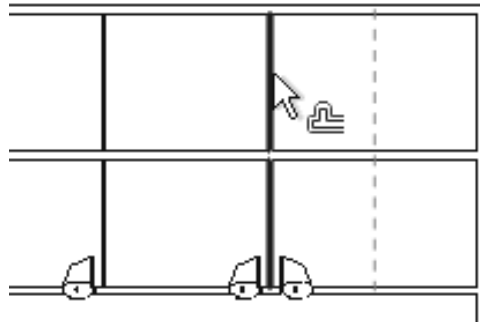

Figure 2-74
- With **Offset** still active, change the *Offset* to **10'-0"** and offset the last vertical interior wall to the right, as shown in Figure 2-74.